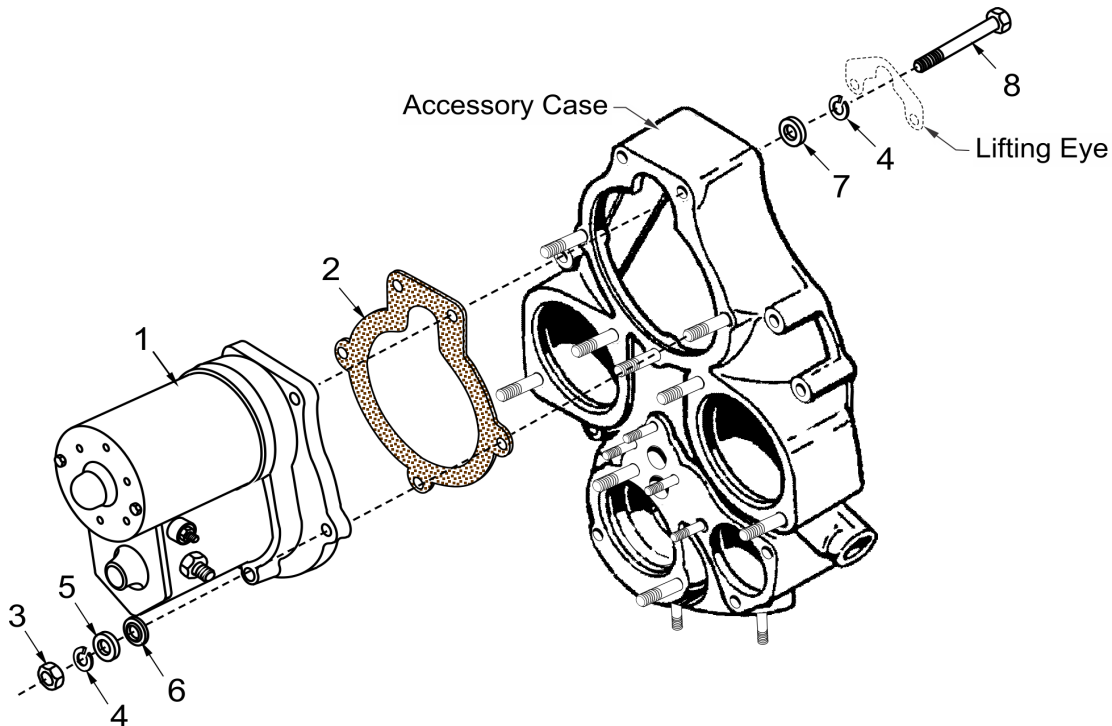

Figure 1. Removing Starter Drive Assembly (typical)
1. Remove attaching washers, spacers, and nuts (Figure 1, items 3, 4, 5 & 6). Discard washers and spacers.
2. Remove bolts (8), lifting eye, and washers (4 & 7), from starter drive assembly housing (1) and accessory case. Replace bolts P/N 538999 with new bolts P/N 630966-4.00 (8) if removing the P/N 634464 starter motor and P/Ns 641500 or 653575 clutch assembly. Retain lifting eye and discard washers.
3. Lightly tap/bump the starter (1) by hand to break the starter gasket (2) adhesion. Carefully remove the starter and clutch, if installed, and discard the starter gasket.